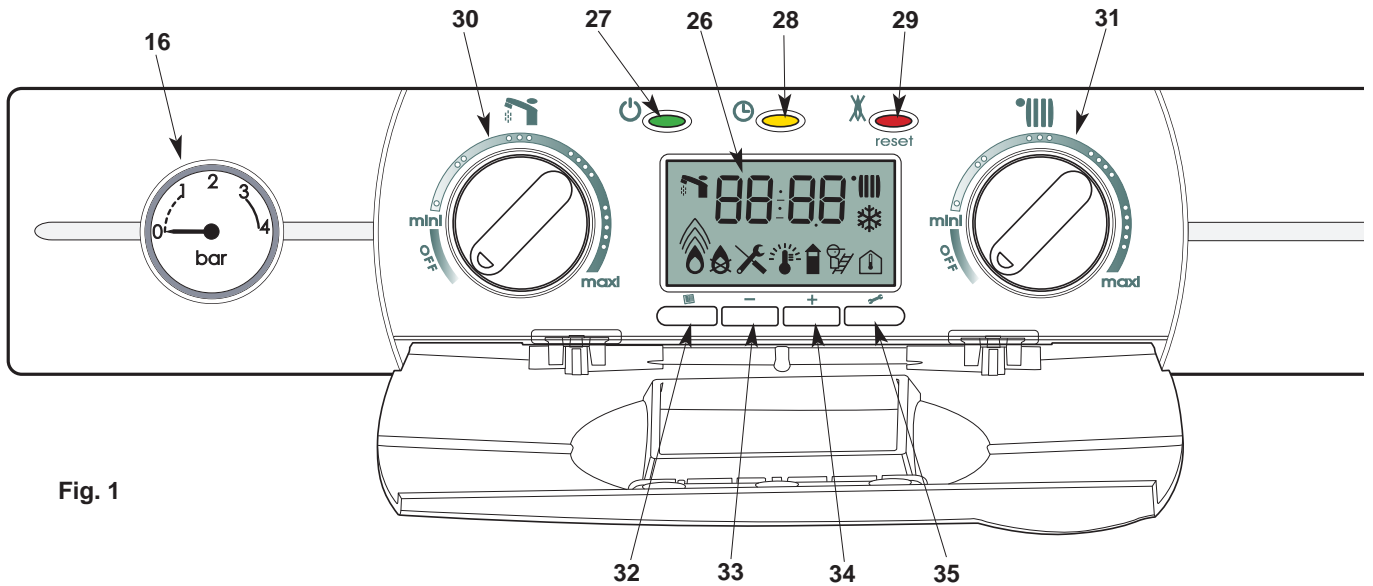

Fig. 1
Control panel (Fig. 1)
1. Check the pressure in the central heating system is above 0.7 bar and below 1.5 bar with the pressure gauge **16** (fig.1), should it be necessary to re-pressurise the system, ensure the filling loop **45** (fig. 2) is attached, open the filling taps **43 & 44**, the pressure gauge will now start to rise, once the pressure reads 1.0 bar, close the filling taps and disconnect the filling loop.